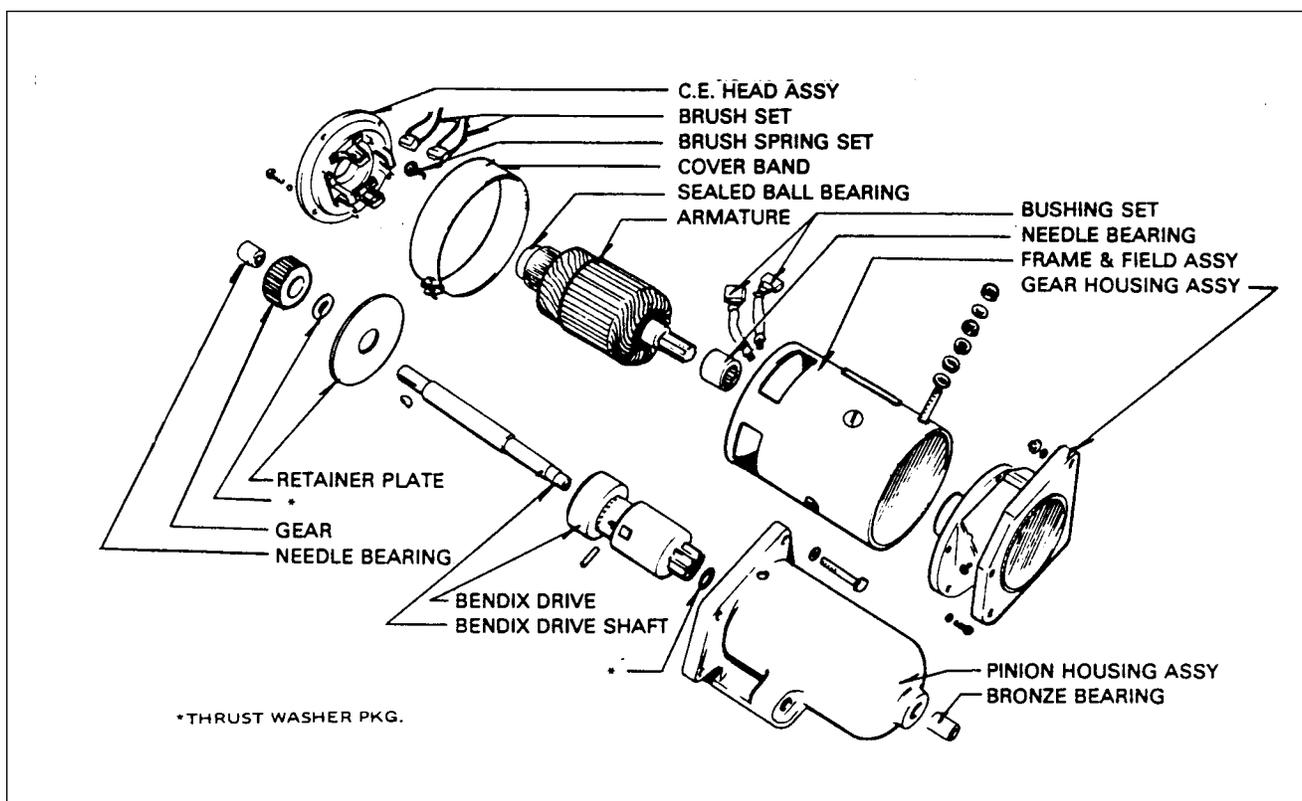

Figure 80-1. Exploded View of Gear Reduction Starting Motor
**DESCRIPTION AND OPERATION (figure 80-1)**